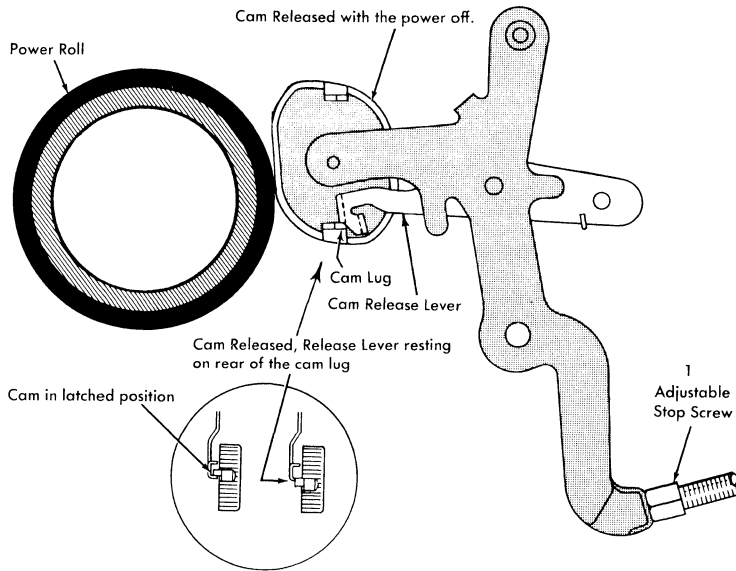

Figure 16. Spacebar Cam Adjustment
1. Cam clearance is adjusted by the stop screw so that the cam clears the power roll by .010"-.015" (Figure 16). This adjustment can be observed by releasing the cam with the power off, and noting the position of the cam release lever with respect to the cam lug. The adjustment is correct when the cam release lever rests on the rear half of the cam lug as shown in Figure 16. Check the adjustment on both cam lugs.